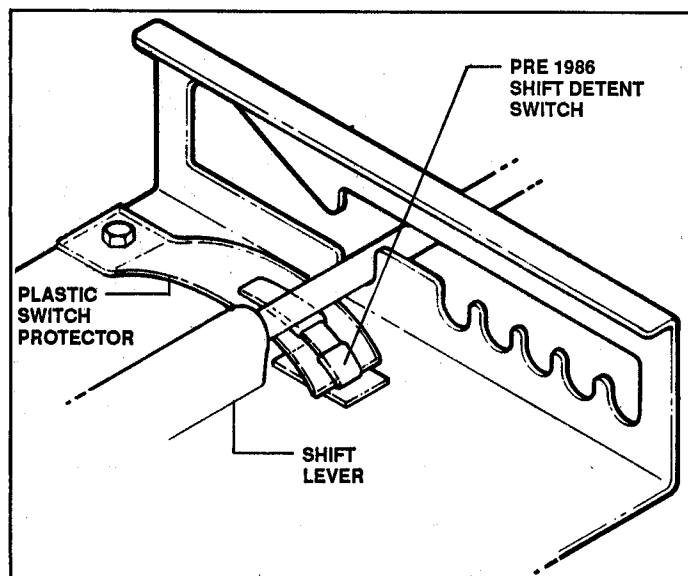

FIGURE 6.15
3. Should the switch protector show signs of excessive wear, replace with new part. See Figure 6.15.